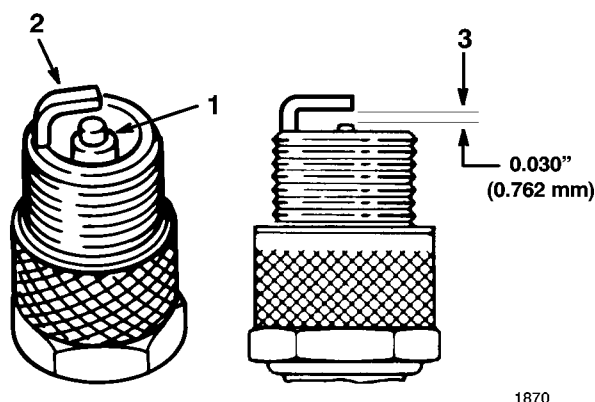

Figure 24
1. Look at the center of the spark plug (Fig. 24). If you see light brown or gray on the insulator, the engine is operating properly. A black coating on the insulator usually means the air cleaner is dirty.
2. Check the gap between the center and side electrodes (Fig. 24). Bend the side electrode (Fig. 24) if the gap is not correct.